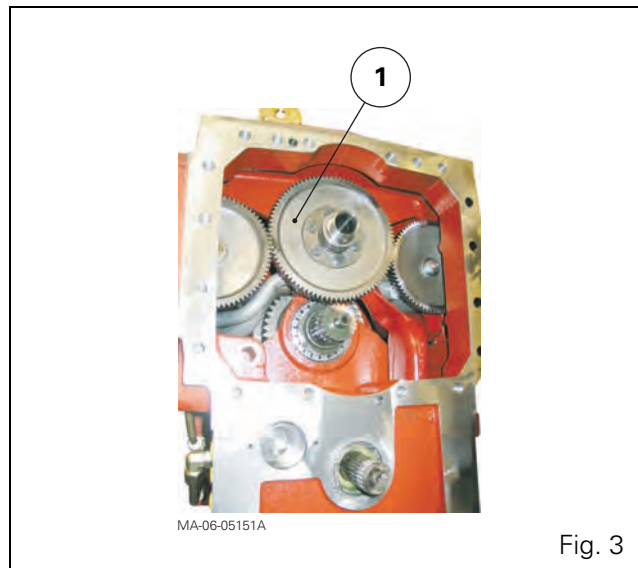

Fig. 3
4. Remove, as appropriate, the pinion (1) (Fig. 3) or the bearing/hydraulic pump drive pinion assembly (see chapter 9).
- 19.** Refit the pinion (1) hydraulic pump bearing/drive pinion assembly (Fig. 3).